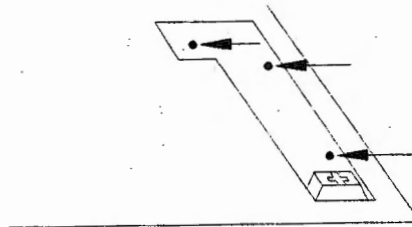

Figure 3
4. Remove the three screws which hold the interlock cover in place. Position the interlock tool such as to hold down the interlock switch plunger (see figure 3).